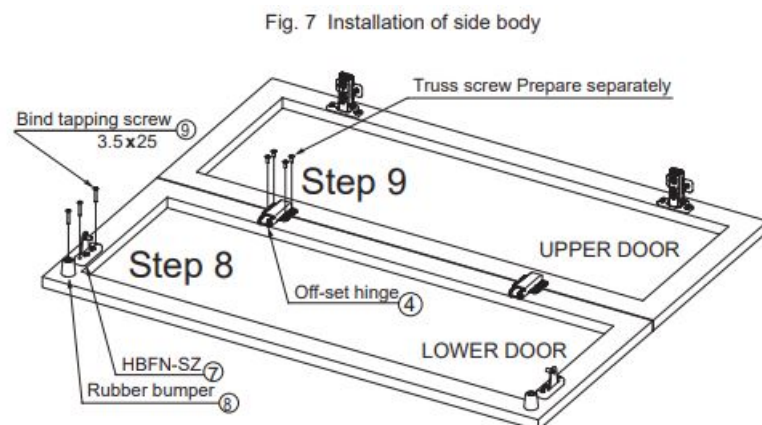

Fig. 8 Installation of HBFN-SZ mounting plate and off-set hinge
- Step 8. Fix the HBFN-SZ mounting plates 7 tightly and place the rubber bumpers 8 to the specified position of the back of the lower door with the attached bind tapping screw 3.5x25 9. (Fig. 8)
- Step 9. The off-set hinges 4 should be used for the connection of the upper door and the lower door. The installing position of the off-set hinges should be set the hinge center at the lower door side. (Fig. 8)